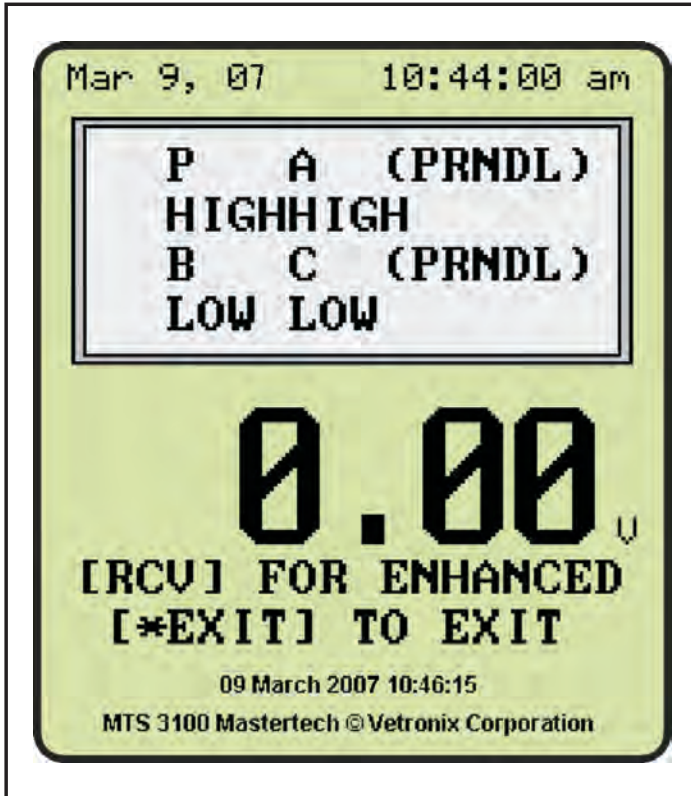

Figure 86
- If the range circuits have system voltage, watch these parameters on the scan tool, as shown in Figure 86, as you ground “A”, “B”, “C” and “P” terminals at the switch connector, one at a time, and watch the scan tool as you do this, each range parameter should change from “Hi” to “Lo”, or 12 to 0. If no change takes place the PRNDL decoder inside the PCM is faulty and the PCM will require replacement.